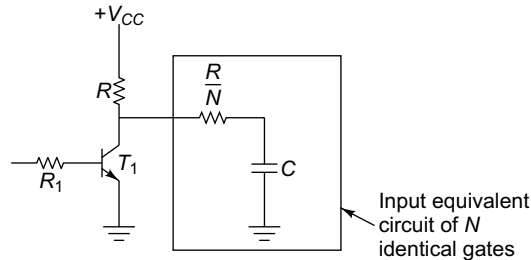

Fig. 6.55
- (a) $A + (BC) = (A + B)(A + C)$ (b) $A(B + C) = (AB) + (AC)$
19. Determine the rise time of a RTL circuit as depicted in Fig. 6.55. Assume $R_1 = 450$ ohms, $R = 640$ ohms, $C = 5$ pF, $N = 10$